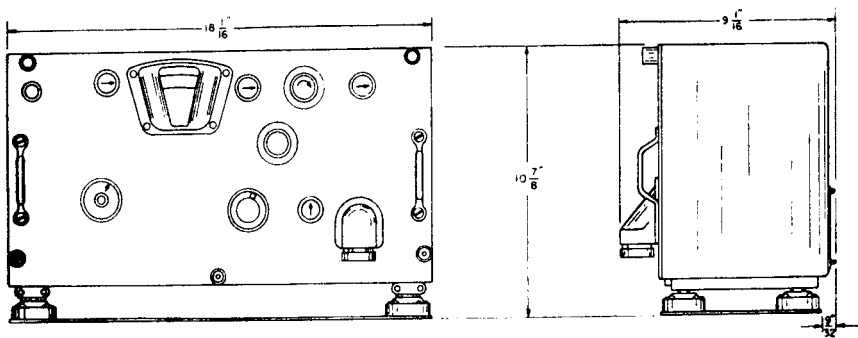

Figure 8. Radio receiver and mounting dimensions.
a. Install Mounting FT-162 on a substantial support such as a desk or bench. Mounting dimensions are given in figure 8. If the receiver is installed in a vehicle, add Mounting FT-178 to prevent excessive horizontal movement.